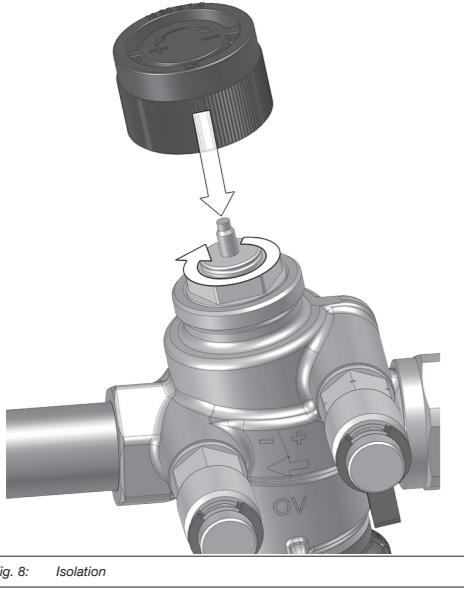

Fig. 8: Isolation
- Close the valve, for instance with the help of the protection cap (see Fig. 8).
Screw the included protection cap onto the connection thread M 30 x 1.5 of the valve (see Fig. 8).